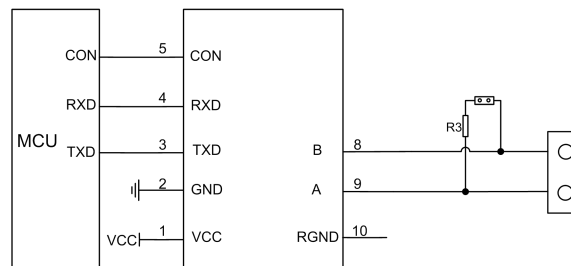
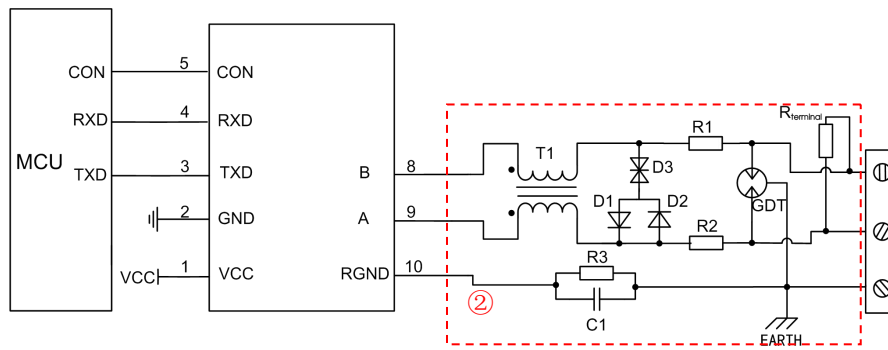

Fig. 1
Fig. 2
Surge	IEC/EN 61000-4-5 ±2kV (line to ground) (without external components, A, B port) ±2kV (line to line)/±4kV (line to ground) (see Fig.2-②, A, B port) Perf. Criteria B
Figure 1 shows a typical connection circuit for the isolated transceiver module TDH301D485H-E and TDH501D485H-E. The TDH501D485H-E module's power supply must be 5V and match the module's TXD, RXD and CON pin interface level of 5V (not supporting any 3.3V system levels). Accordingly, TDH301D485H-E module's power supply must be 3.3V and match the module's TXD, RXD and CON pin interface level of 3.3V (not supporting any 5V system levels).
As the modules internal A / B lines come with its own ESD protection, which generally satisfy most application environments without the need for additional ESD protection devices, as shown in the typical circuit in Figure 1. For harsh and noisy application environments such as motors, high voltage/current switches, lightning and similar however, we recommended that the user protects the module's A / B lines with additional measures and external components such as TVS, common mode inductors, gas discharge tube, shielded twisted pair of wires with the same single network Earth point. Figure 2 shows our recommended circuit diagram for such type of applications with components and values given in the table above. This recommendation is for reference only and may have to be adapted accordingly with appropriate component values in order to match the actual situation and application.